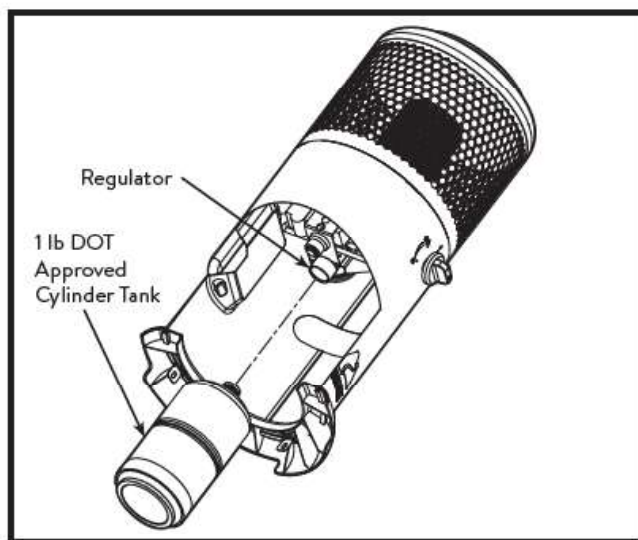

Fig. 1 - 1 lb. Cylinder Tank Installation
TANK INSTALLATION FOR DOT CERTIFIED 1 LB. PROPANE CYLINDER(S) (FIG. 1)
- Locate regulator as shown in figure 1.